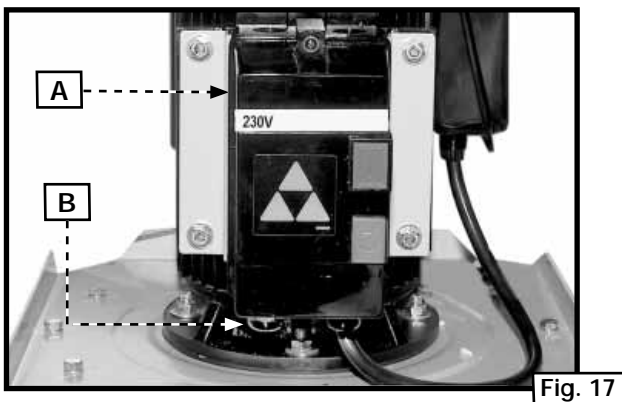
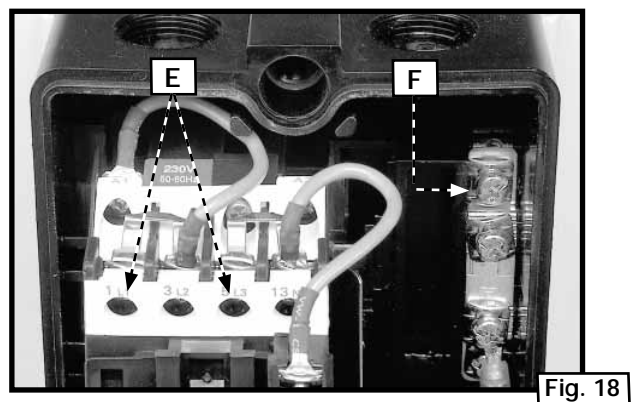

Fig. 17
Fig. 18
1. Remove the controller cover (A) Fig. 17.
2. Bring the single phase power line through the access hole (B) Fig. 17 in the bottom of controller box and connect the two power lines to terminals (E) Fig. 18, and the green ground wire to the ground screw (F).